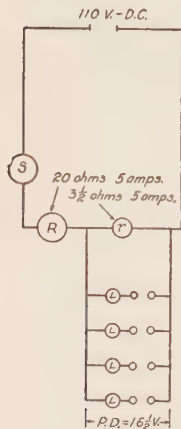

FIG. 21.
b. Each of four wide glass tubes is fitted up as follows: The lower end is closed tightly with a two-holed rubber stopper, through which pass an electrode and a small tube with stop-cock and nozzle. The upper end is also plugged with a two-holed stopper through which pass loosely a long narrow tube enclosing a second electrode and a funnel for use in filling the tube. The four tubes are fixed upright on a board side by side, and each is connected up with a direct-current circuit and a signal lamp (Fig. 21). The tubes are now filled with tenth-normal solutions of (1) hydrochloric acid, (2) acetic acid, (3) sodium hydroxide, and (4) ammonium hy-
20-ohm resistance and a 3.5-ohm resistance on a 110-volt circuit (Fig. 21, diagrammatic), the potential drop over the lower resistance will be about 16.5 volts. If these resistances be of sufficient carrying capacity (say, 5 amperes), then four different current outlets may be provided—each one with plenty of current for one of the
electrolytic cells previously described. Each of these outlets is in series with a small battery lamp, used as an indicator of the flow of current through the cell (Fig. 21).